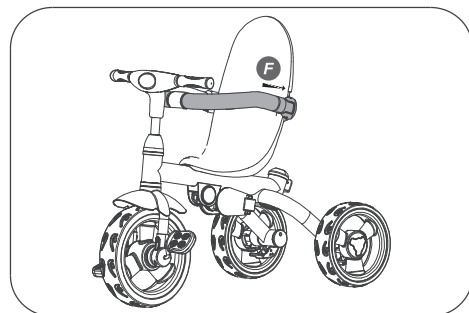

Fig. 6
8. Insert the Handrail (Left) into the left Handrail Attachment Opening **F** on the Plastic Seat Base until you hear a "Click". Then repeat process with Handrail (Right) (See Fig. 6).